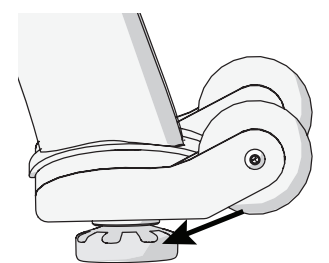

Figure 13
1. Try to rock the bike. If there is any movement, tip the bike to one side to locate the adjustable feet (Figure 13).